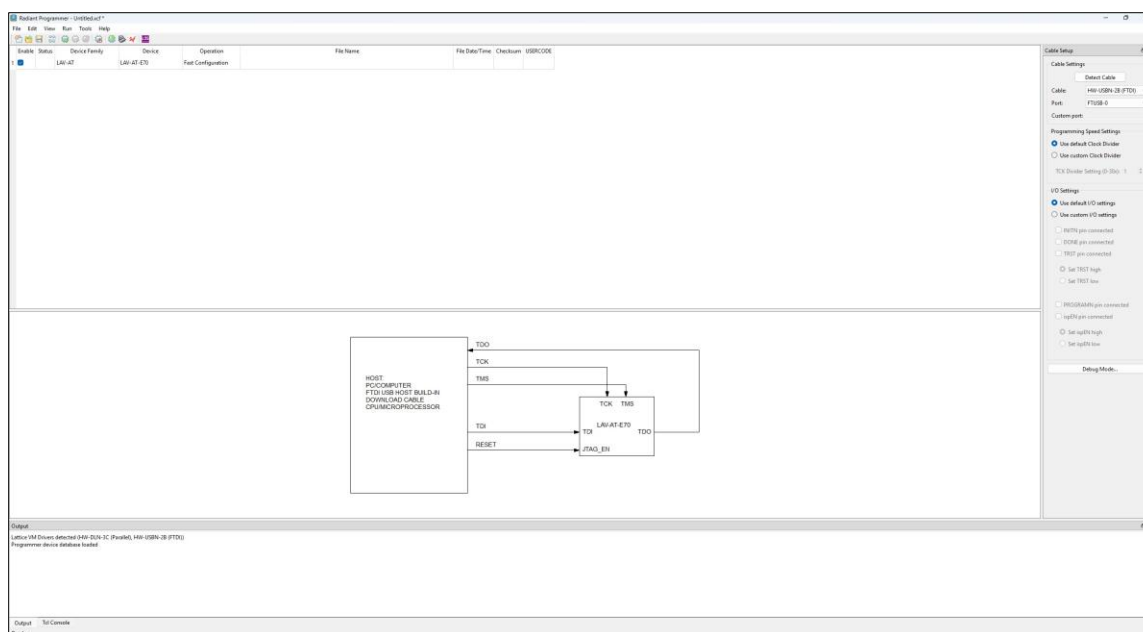

Figure 5.5. Radiant Programmer
5. The Radiant Programmer interface opens as shown in Figure 5.5. Double-click the **Operation** field.